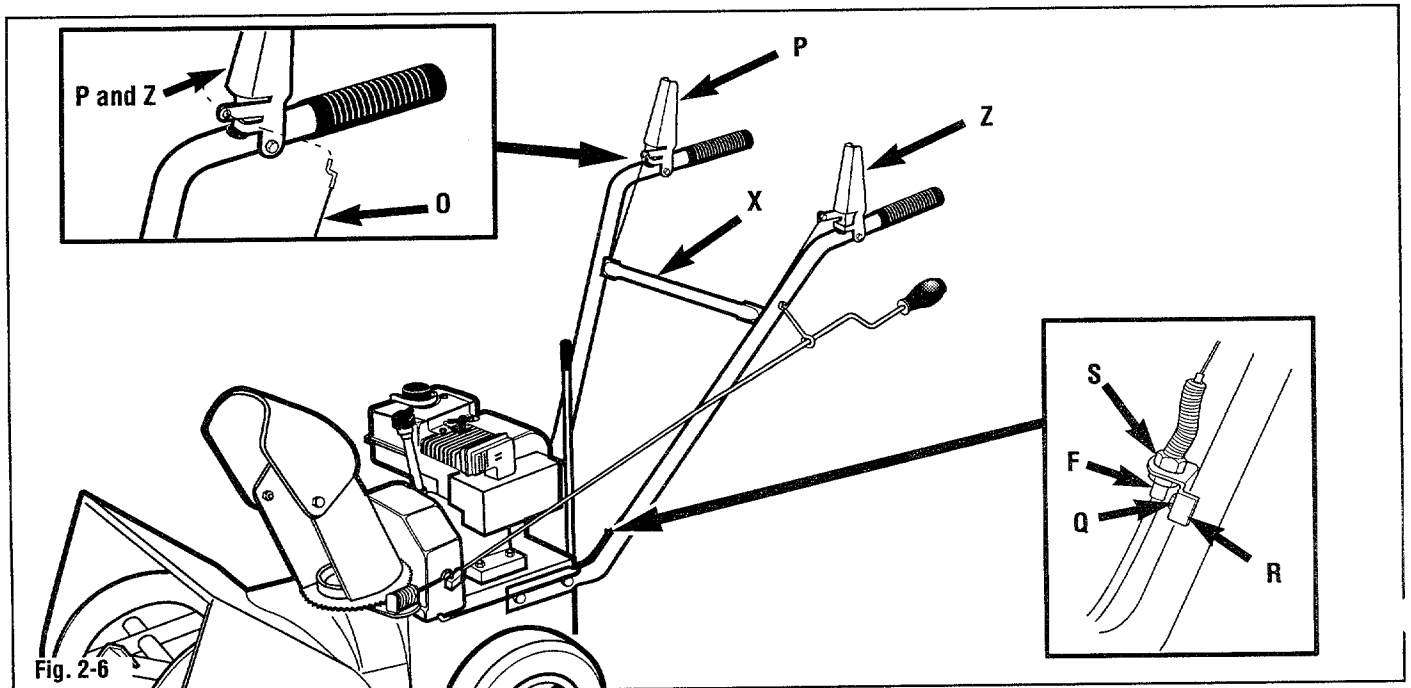

Fig. 2-6
1. Hook the control cable assembly (O, Fig. 2-6) entering the left side of the frame into the right control lever (P). The control cable (O) must be routed behind cross-member (X).
2. Hook the control cable assembly (O) entering the right side of the frame into the left control lever (P and Z). Control cable (O) must be routed behind cross-member (X).